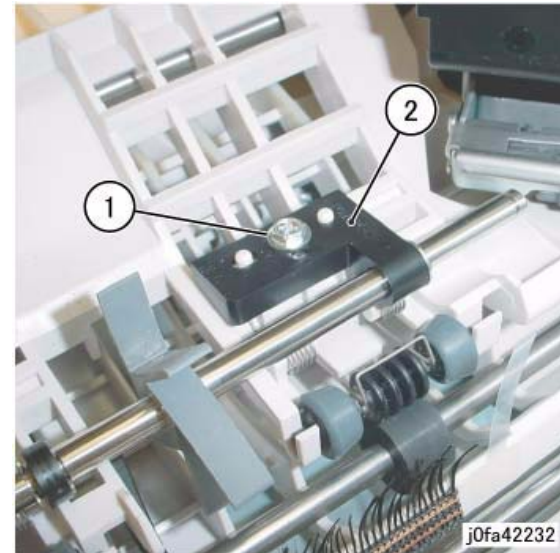

Figure 4 Removing the Support Bearing (j0fa42232)
6. Remove the Support Bearing from the ENT Lower Chute Assembly. (Figure 4)